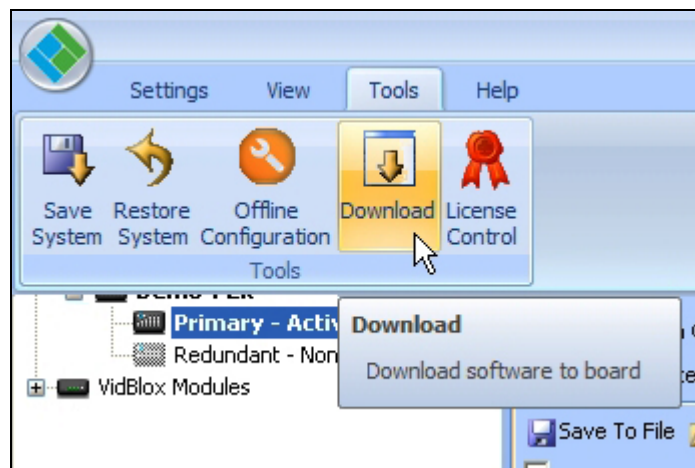

Figure 4. Download Icon
8. Open the *Tools* menu on Catrax and select the **Download** function as shown by Figure 4.